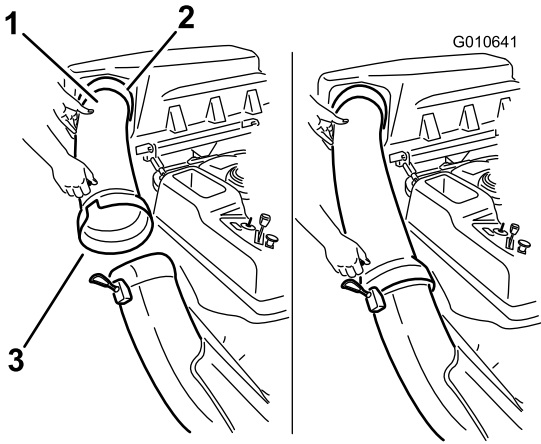

Figure 24
- Slide the curved end of the discharge tube into the opening in the bagger top (Figure 24).
- Slide the flared end of the discharge tube over the end of the chute. Move the rubber retaining strap on the chute snaps over the peg on the discharge tube to secure it (Figure 24).